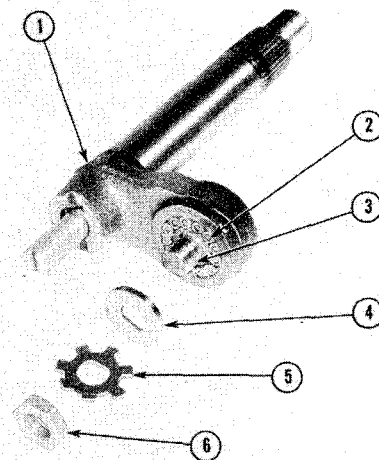

Figure 8-29
Replace any damaged rollers (2, Fig. 8-29) and assemble roller bearing unit (3) in levershaft (1). Install flat washer (4), pronged washer (5) and nut (6). Tighten nut to recommended torque (refer to "SPECIAL TORQUES" under "SERVICE INFORMATION").